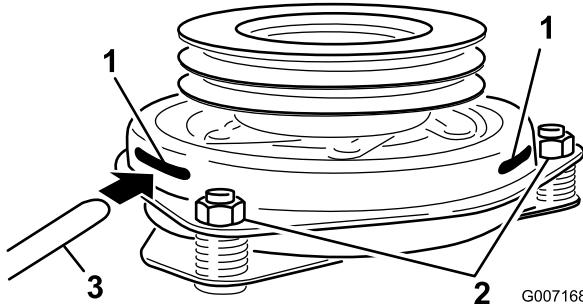

Figure 59
assembly. Make sure it is between the armature and the rotor friction surfaces (Figure 59).
- Tighten the lock nuts until there is slight binding on the feeler gauge but it can be moved easily within the air gap (Figure 59).